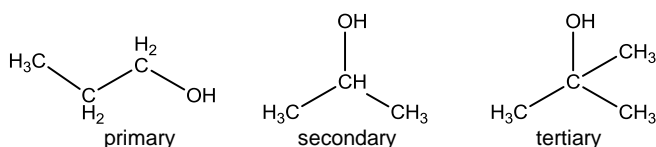

Fig. 1 Structural formulas of the various alcohols.
Alcohols can be subdivided into primary, secondary and tertiary alcohols. They differ only in the position of the OH group. In the case of primary alcohols, this is located on the end carbon atom. In the case of secondary alcohols, it is located on a carbon atom with two neighbouring carbon atoms and in the case of tertiary alcohols on a carbon atom with three neighbouring carbon atoms (see Fig. 1).
- The apparatus is set up as can be seen in Fig. 1. For safety reasons, set up the apparatus behind a safety screen or in a fume hood.